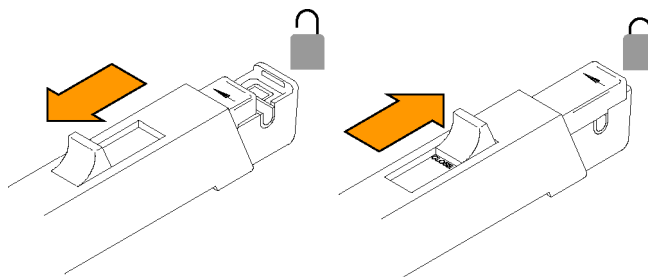
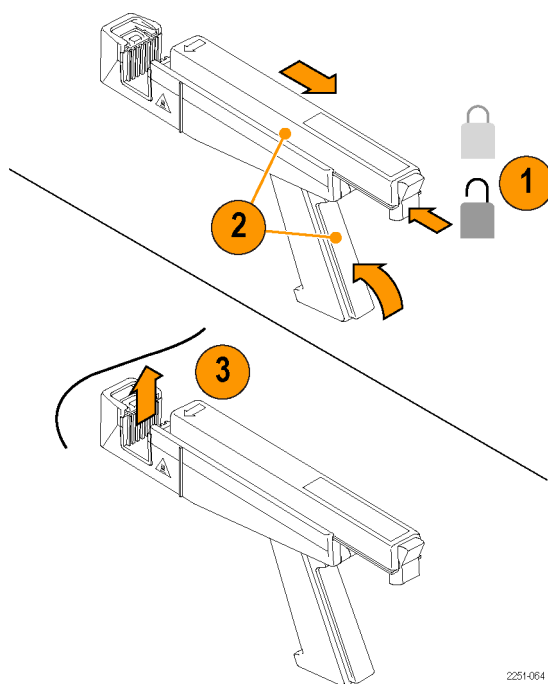

Figure 5: TCP312 and TCP305 slide operation
Figure 6: Unlock and open the TCP303 and TCP404XL
The slide operation of the TCP305 and TCP312 current probes is shown in the following illustration. (See Figure 5.) To open the probe, pull the slide back until the jaw is open. To lock the probe, push the slide forward until the detent snaps into place.
3. Lock the probe slide closed. (See Figure 5.) (See Figure 6.)